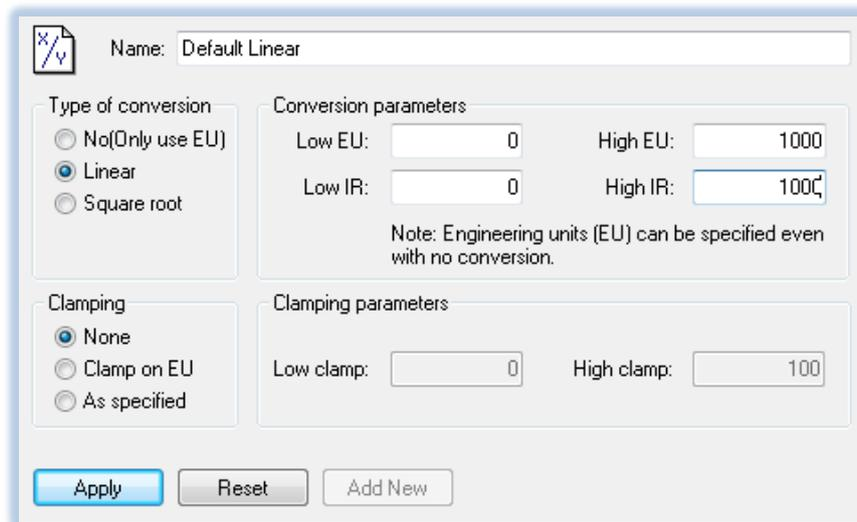

Figure 2 Dialog box for conversion settings
type of conversion has to be chosen either from pre-defined ones (Figure 1-2) or you can create a new type of conversion first. Dialog box for defining of the conversion/recalculation type is in the Figure 2. Using it, following operations or combinations of operations can be defined and parameterised:
For the dead band functionality, the role of OPC client and OPC server are reversed. The client creates OPCGroup and OPCItem objects with corresponding parameter values (*PercentDeadBand*, *UpdateRate*, *ActiveState*) which enable an automatic data transfer, when subscription is enabled on OPC client. The value of **PercentDeadBand** is parameterised in OPC client. Value changes in OPC server are transferred to the client only if the difference between old and new value are bigger than defined by *PercentDeadBand*. However, as can be seen from the name the value of *PercentDeadBand*, it is given in %. It means that there must be a base from which the value of the change is counted. This value is given as difference in **High EU – Low EU** which are parameterized for OPC server (Figure 2). The meaning of **High EU and Low EU** is the engineering units used on the OPC client side. These are standard properties for OPC items defined in OPC DA3.0 specification only for analog data under ID 102 and 103.
- identical with engineering units using **High EU, Low EU** values (radio-button *Clamp on EU* in Figure 2)
- or independent using values **Low clamp** and **High clamp** (radio-button *As specified* in Figure 2).
- Clamping can be switched off (radio-button *none* in Figure 2)